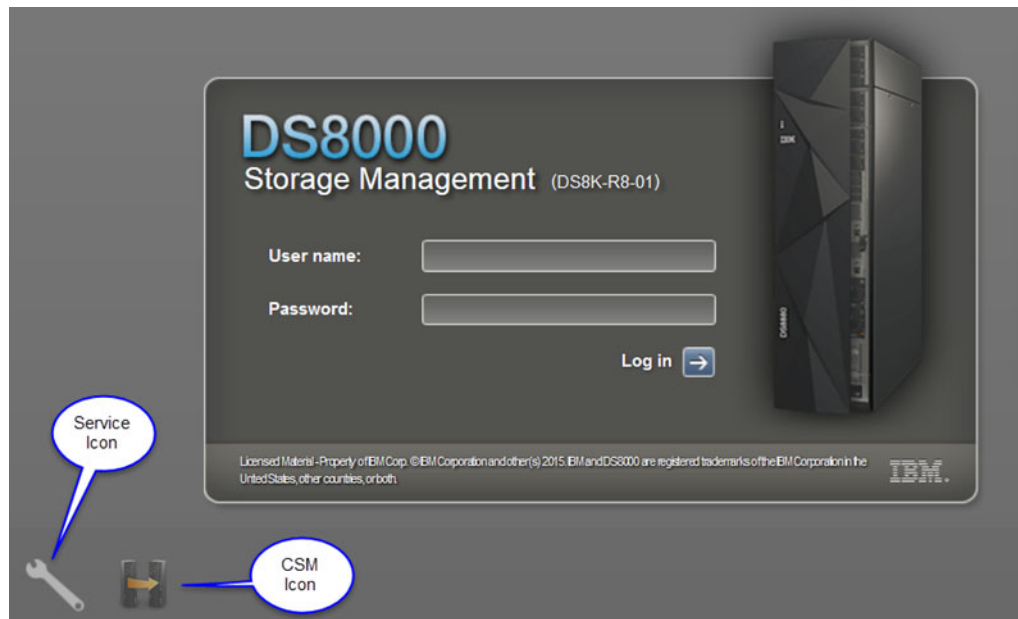

Figure 8-6 DS Management GUI Logon Window
1. Start the MC Web GUI as shown in Figure 8-6. Click the **Service** icon (wrench) to access the Service Management Console.